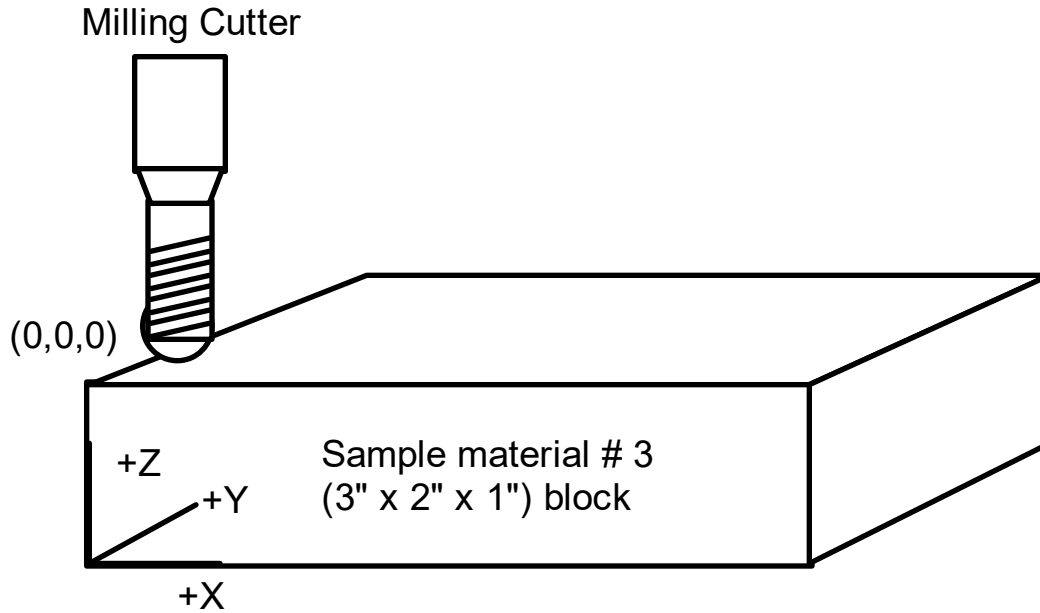

Fig. 14 - Setting the position reference for machining the part program FACER.TAP
2. Load sample material #3 as explained before and set the (0,0,0) position reference at the Lower Left Corner of the material as shown in figure 14 below. The Z = 0 position should be set directly at the surface. The X = 0 position is set at the edge and the Y = 0 position is set 0.25 inch inward from the side so the milling cutter does not cut into the vise jaws.